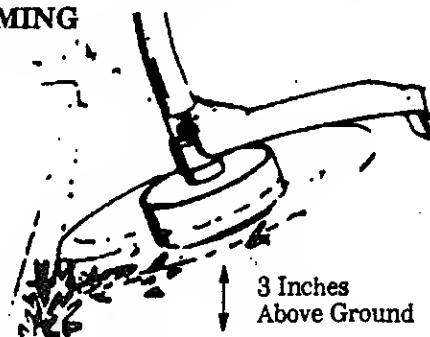

Figure 12
- TRIMMING - Figure 12. Hold the bottom of the trimmer head about 3 inches above the ground and at an angle. Allow only the tip of the line to make contact. Do not force the trimmer line into the work area.